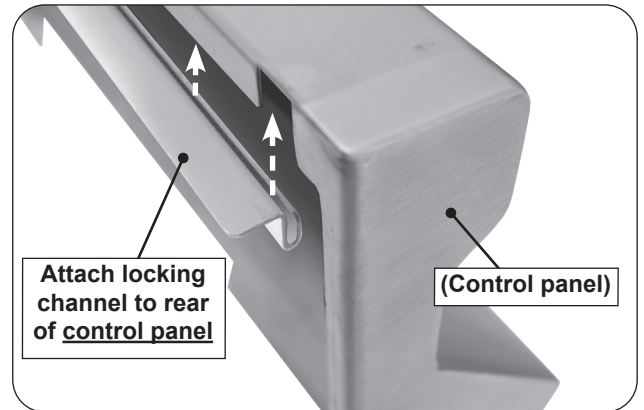

Fig. 31-1 Attach cooking grid locking channel
1. Attach the cooking grid locking channel to the rear top lip of the control panel (see Fig. 31-1).